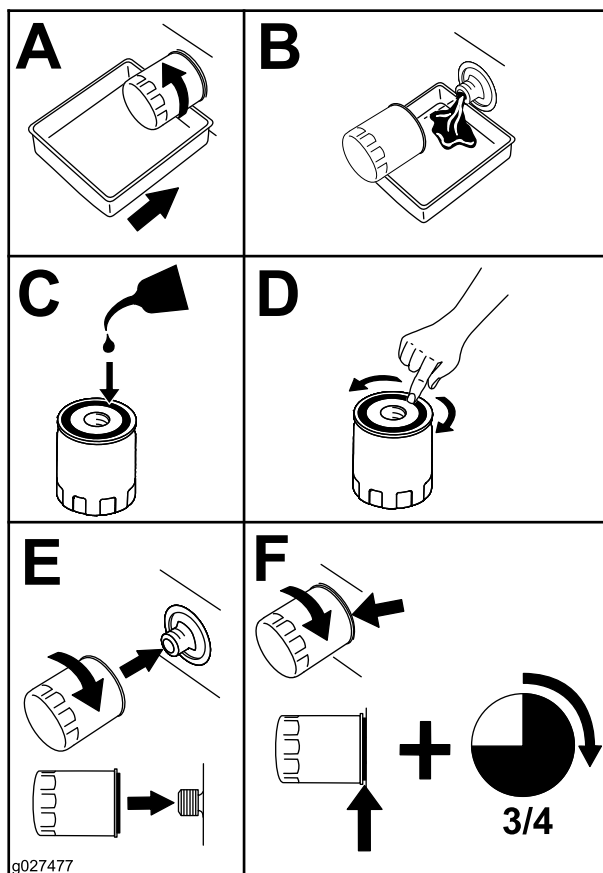

Figure 30
4. Replace the oil filter (Figure 30).